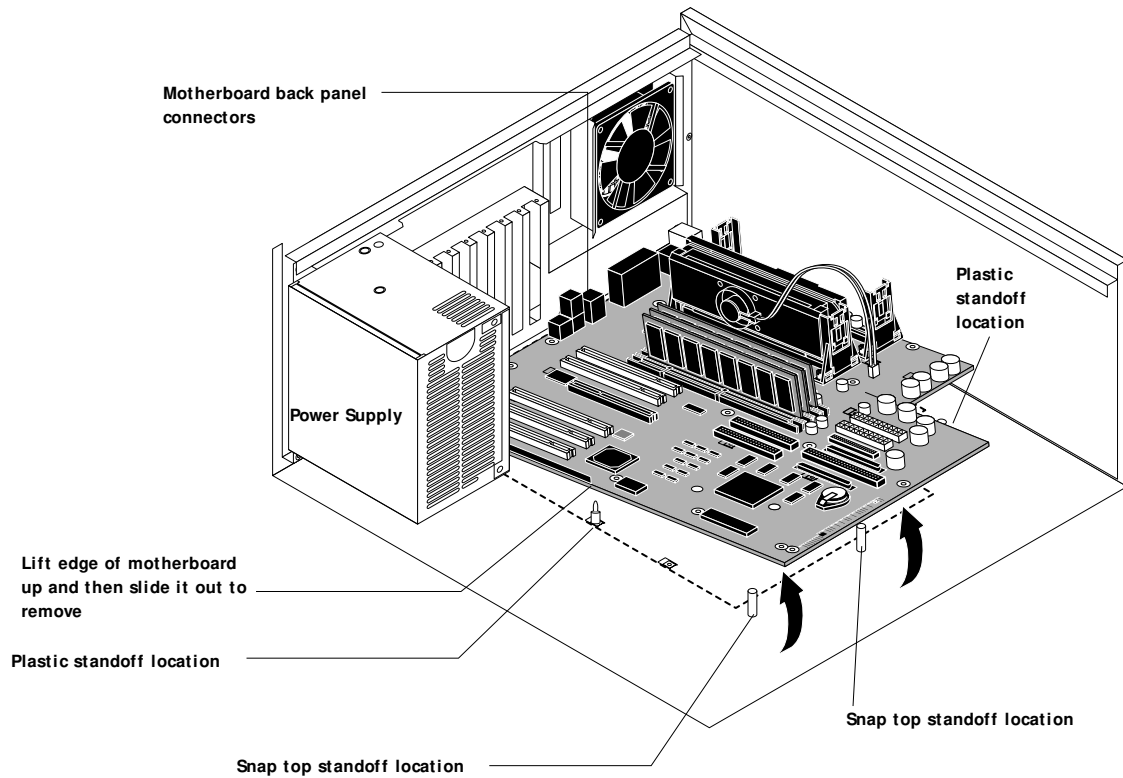

FIGURE 4-18 Removing the motherboard
6. Gently slide the motherboard out of the E-800A tray (see Figure 4-18).
2. **Angle the motherboard so the back panel connectors on the motherboard fit into the cutouts in the back of the tray. See Figure 4-18 on page 4-27.**
3. **Align the mounting holes on the edge of the motherboard (opposite the back panel connectors) with the standoffs located in the base of the tray (see Figure 4-18 on page 4-27).**